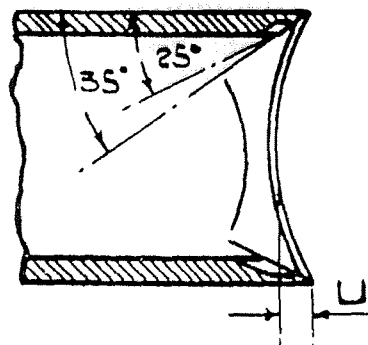

Fig. 8
The CHISEL must be sharpened on the inside only and the cutting edges should be shaped to give a curve, shown at Fig. 8, and maintained in a shape as new. Never file the outside as this will reduce the size of the mortise. The bevels of the cutting edges must meet exactly at the corners. The depth "U" from the corner point to the curve at the centre should be about one-eighth the diameter of the size of the chisel. The cutting edges must be as short as possible and filed to an angle of about 35°, as shown at Fig. 8. The part behind the cutting edges must then taper off to an angle of 25°. It is recommended that the special Tool illustrated overleaf is used to ensure the correct angle on all four cutting edges of the chisel.
- Place chain on anvil block fig. 8 and drive a little with "first breaking punch" on each rivet, allowing both to be driven out together with bottom side link.